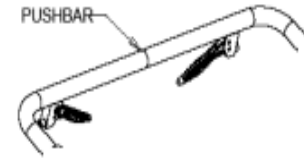
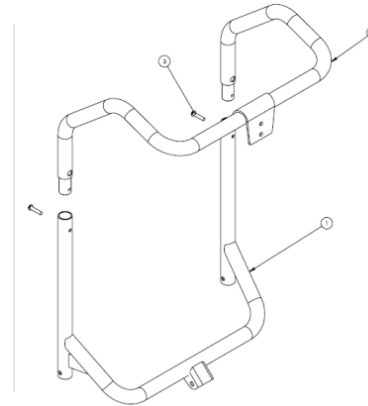

Figure 13
Figure 14
Reclining the Back [Figure 13, Figure 14]
1. To recline the Orion II depress the lever as depicted in Figure 13 and gently force the pushbar in a downward motion to allow the recline.
2. Figure 14 shows a pushbar stroller on an Orion II model without the levers.